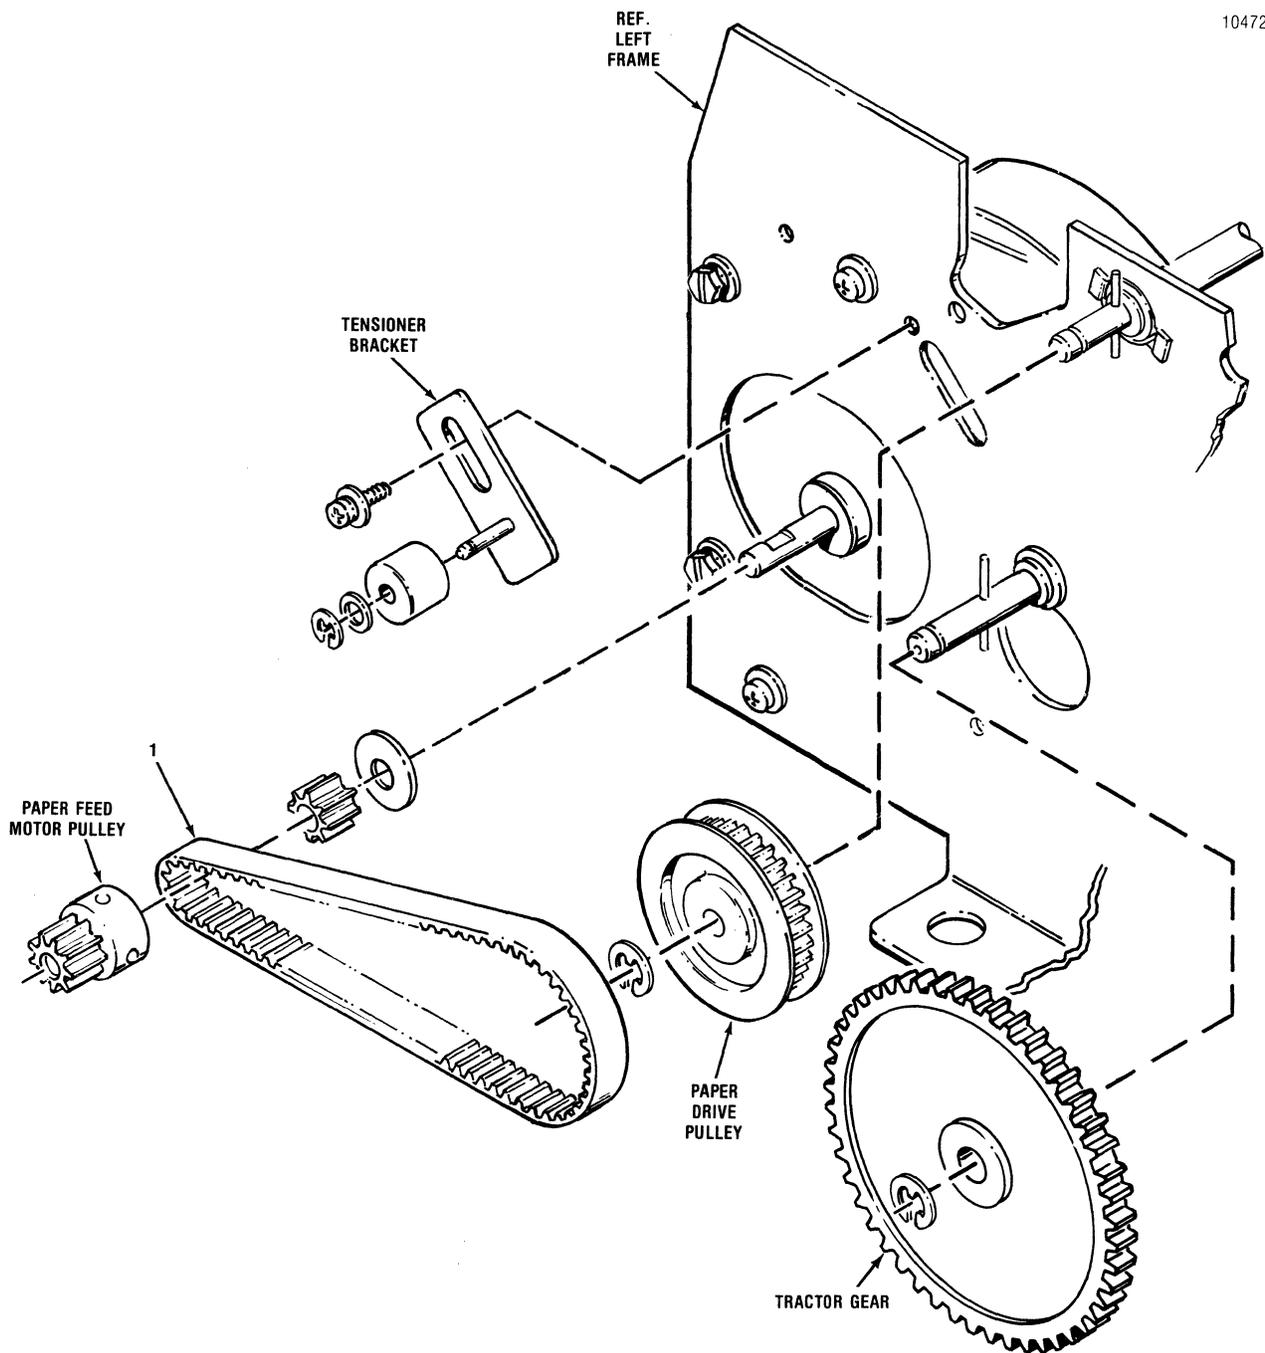

Figure 5-16 Removal/Replacement, Paper Drive Belt
The paper drive belt, item 1 of Figure 5-16, provides the drive from the paper feed motor to the paper feed mechanism. The belt is removed using a snap ring remover and a Phillips head screwdriver. To remove the belt, refer to Figure 5-16 and perform the following steps:
5. Remove the paper drive belt (1) from the paper feed motor pulley and the paper drive pulley.